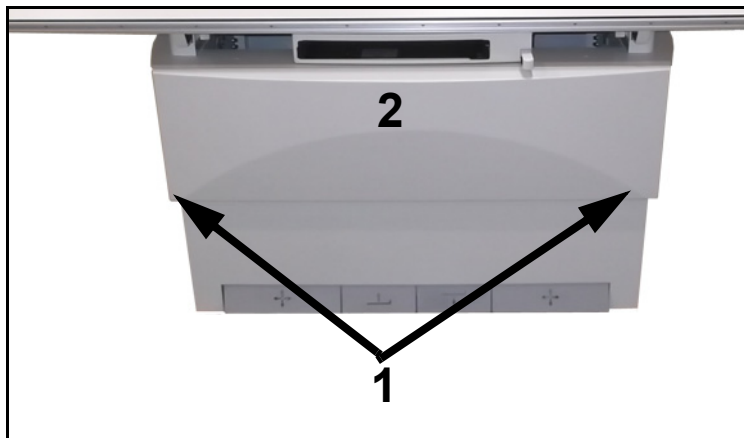

Figure 6-1. Upper Panel Screws
- 3 Unscrew the upper panel screws (1 in Figure 6-1), tilt panel (2) out, and lift off from the table.